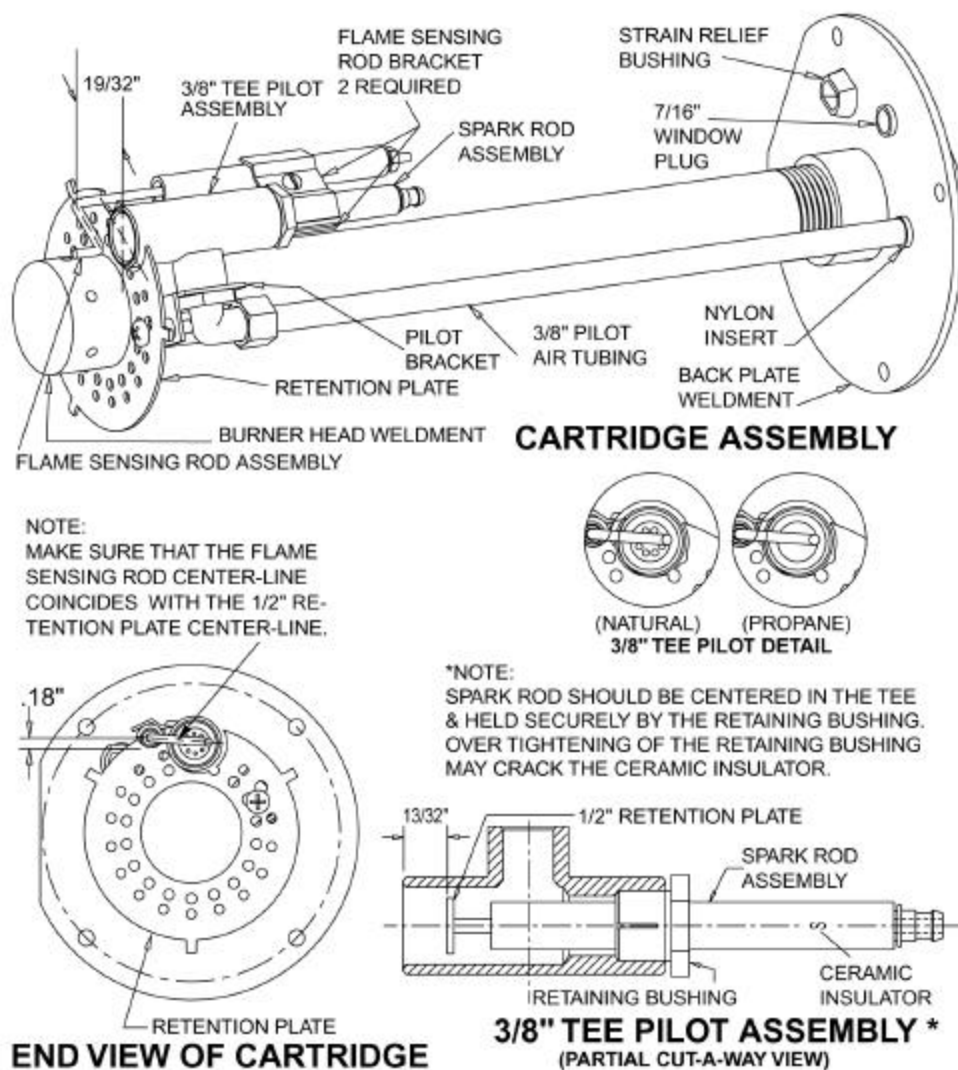

Figure 6A: General Assembly for RE4400
- The spark rod is welded to a round 1/2" retention plate. The 1/2" retention plate is centered in the 3/8" Tee pilot and is positioned so the high tension voltage will arc to the inside of the 3/8" Tee pilot. (See Figures 6A & 6B).
- The flame sensing rod must be positioned as shown in Figures 6A & 6B so that the primary safety control will detect a proper flame.
- The pilot air tubing must be kept free of kinks or inside obstructions and must be positioned per Figures 6A & 6B, otherwise air flow could be reduced and adversely affect the pilot flame.